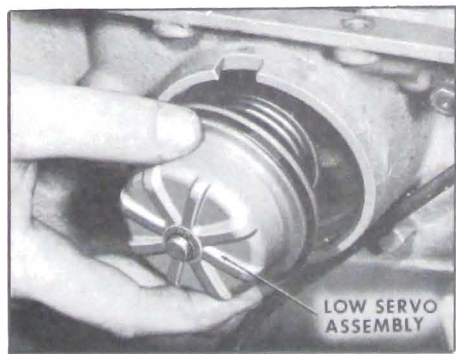

Figure 5-302
1. Install low servo piston assembly into case. See Figure 5-302.